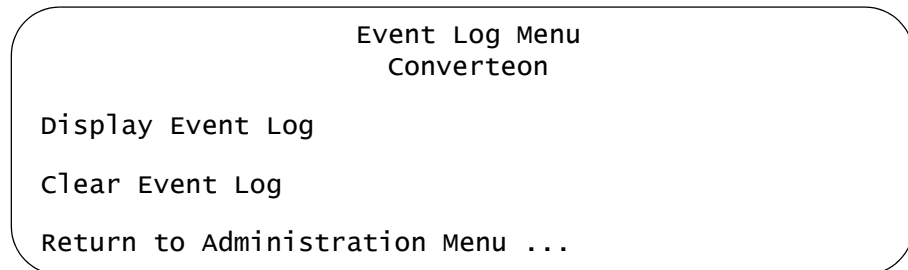

Figure 38. Event Log Menu
2. From the Administration Menu, select **Event Log** to display the Event Log Menu window shown in Figure 38.